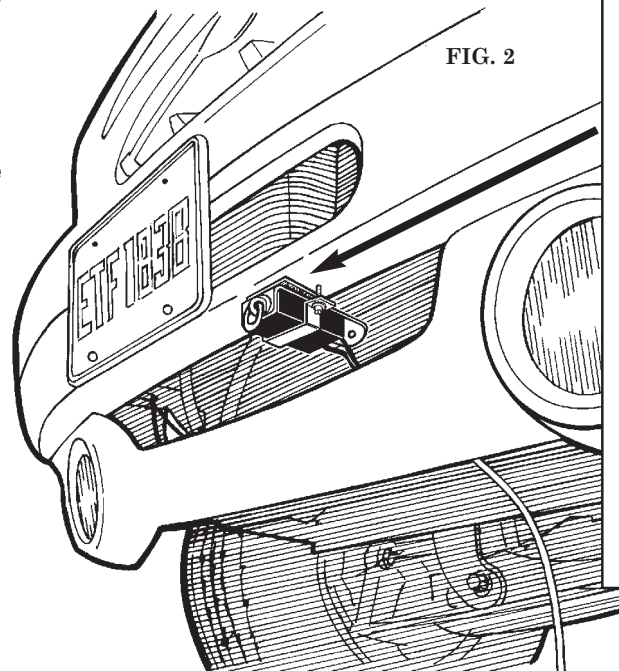
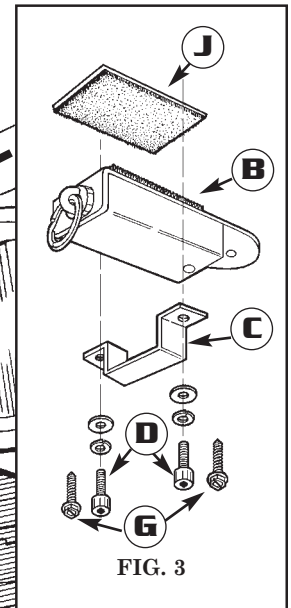

FIG. 2
FIG. 3
1. Find a convenient, sturdy place on the front of your towed vehicle to mount the junction box (B). This should be installed on the driver's side of the vehicle if possible.
2. Clean the mounting surface and attach the velcro patch (J) (Fig. 2).
3. Attach the junction box (B) to the velcro patch (J) so the pin with the ring faces forward and the wiring harness feeds back into the engine compartment.
4. Place the mounting bracket (C) over the junction box (B) and mark the hole locations to be drilled and tapped.
5. Remove bracket (C) and junction box (B). Drill marked holes with a 1/8" metal drill bit.
**NOTE:** For thin sheet metal or plastic, it may be necessary to reinforce the plastic or thin metal to ensure the bracket will not separate from the vehicle when the break-away pin is pulled. If you are going to drill through thicker metal, use hex socket head capscrews (D). You will need to drill a hole using a #25 drill bit and tap the hole using a 10-24 tap.
6. Replace the junction box (B) and attach the bracket (C) using hex socket head capscrews (D) or sheet metal screws (G) provided (Fig. 3).
2. Attach the lock nut and clevis assembly to the air cylinder (Fig. 2).
3. Attach handle assembly to main unit (Fig. 3) with adjustment knob.
4. Adjust the driver’s seat to the far back position (Fig. 3). Place the BrakeBuddy® on the floorboard.
The **Transmitter** (Fig. 11 / **B**) plugs into the top of the BrakeBuddy® and sends a signal to the Receiver when the BrakeBuddy® is activated. Plug the transmitter into the connections on the BrakeBuddy® marked "Alert System" (Fig. 2). The antenna should point toward the motorhome.
Before you begin towing, a simple test should be performed to assure your Alert System is operating properly. Have someone push the red test button on the BrakeBuddy® (Fig. 3 / **C**) and hold it for ten seconds while you are in your parked motorhome looking at the Receiver. The Receiver should illuminate for the full ten seconds without blinking. **Do not do this while the motorhome is moving!** The Alert Receiver will illuminate: (1) when the test button is pressed; (2) when the BrakeBuddy activates as a result of forward inertia (i.e., the braking of the motorhome) ; or (3) if the Break-Away pin is pulled.